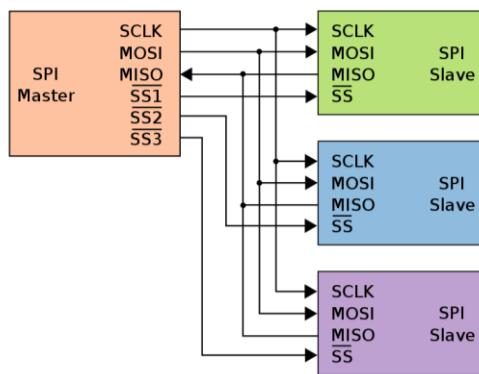

Figure 12 - The SPI bus signals and connection to slave devices
The SPI is a full duplex, master-slave bus. All devices share the same clock (CLK), Master-Out-Slave-In (MOSI), and Master-In-Slave-Out (MISO) signals. In addition, every device has a dedicated Slave-Select (SS) signal for direct addressing. The Arduino's (master) clock output is connected to the CLK signal. Its Serial-Data-Out (SDO) pin is connected to the MOSI signal, and its Serial-Data-In (SDI) is connected to the MISO signal. Slave devices connect their clock pin to the CLK signal, their SDO pin to the MISO signal, and their SDI pin to the MOSI signal. In addition, the SS pin of the device is connected to the dedicated General-Pin-Output (GPO) on the Arduino (Figure 12).